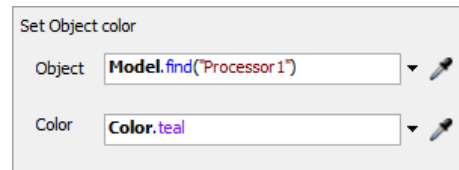

Fig. 18 Set Object Color
4. **Set Object Color** – allows you to set the color of the object selected in the *Object* field (Fig. 18).